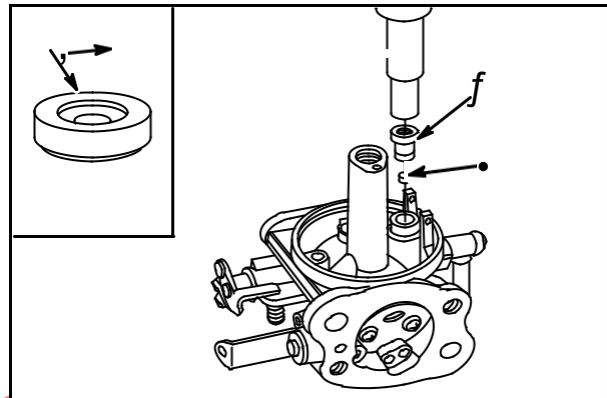

Fig. 51
Install new inlet seat (1) with chamfered end down, **Fig. 51**.